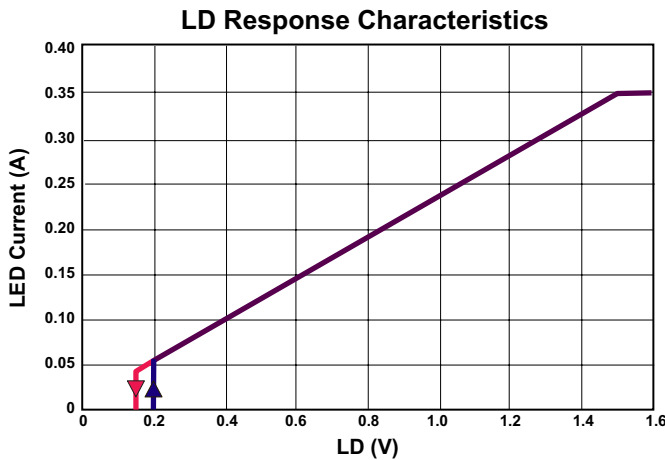

Fig.3. Typical linear dimming response of an HV9961 LED driver
When the voltage at LD falls below $1.5V$, the internal $272mV$ reference to the constant-current feedback becomes overridden by $V_{LD} \cdot 0.181$. As long as the current in the inductor remains continuous, the LED current is given by the equation (3) above. However, when V_{LD} falls below $150mV$, the GATE output becomes disabled. The GATE signal recovers, when V_{LD} exceeds $200mV$. This is required in some applications to be able to shut the LED lamp off with the same signal input that controls the brightness. The typical linear dimming response is shown in Fig.3.